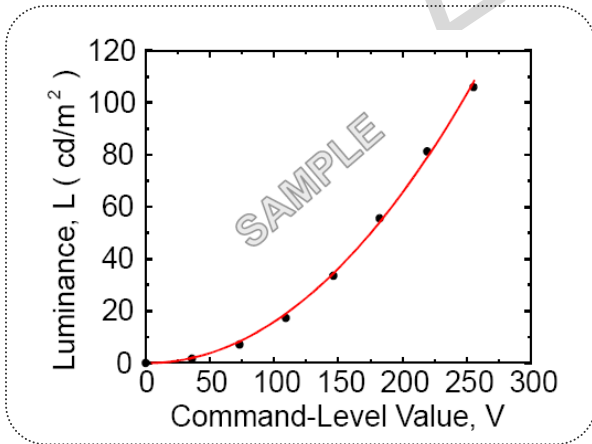
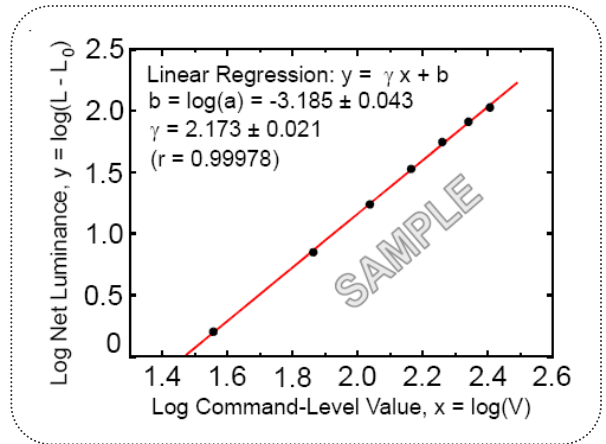

FIG. 9 Sample Luminance vs. gray scale (using a 256 bit gray scale)
FIG. 10 Sample Log-log plot of luminance vs. gray scale
8. Effective viewing angle is the angle at which the gamma shift of gray scale is lower than 0.3. For more information see FIG 9 and FIG 10.
The GAMMA we calculate from the log-log representation (FIG. 10)